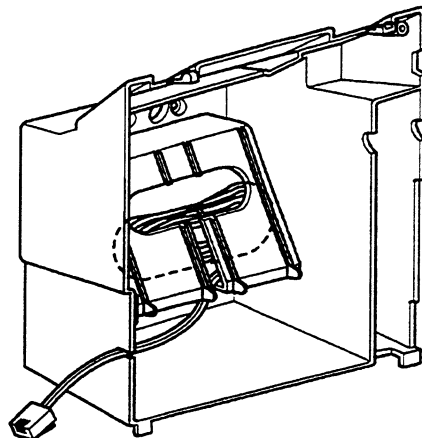

Figure 4-31 Leading the Line Cord out of the WMU-U Unit
4. Place the bundled line cord in the space between the WMU-U Unit and the wall. Lead the line cord out through the slits as shown in Figure 4-31 Leading the Line Cord out of the WMU-U Unit.